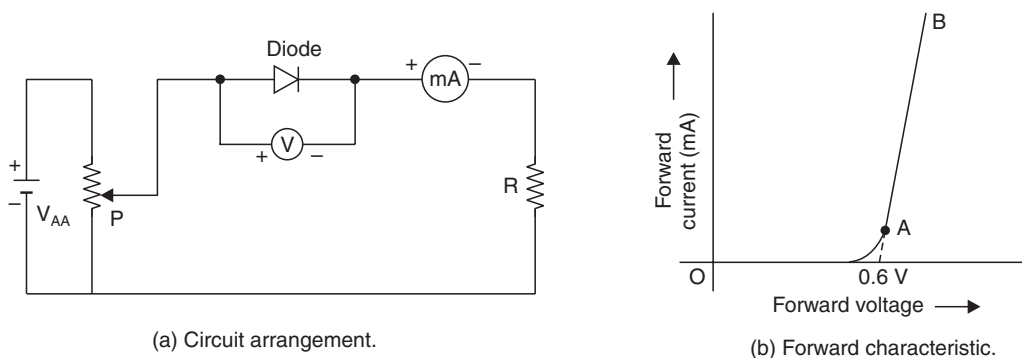
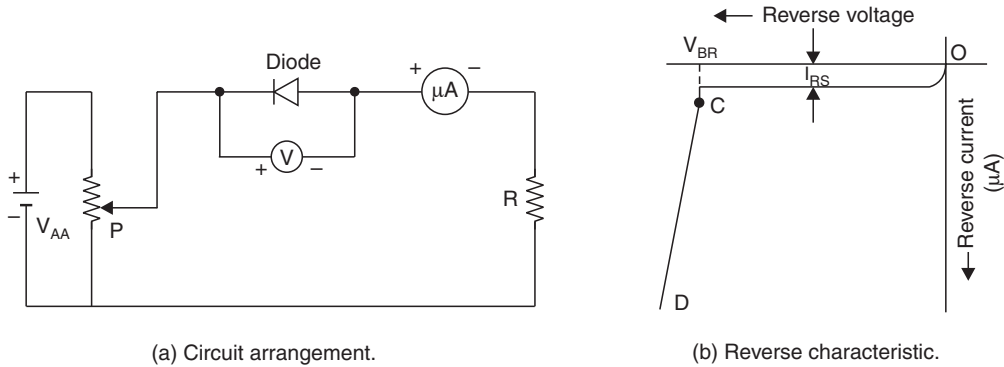

Fig. 15
Fig. 16
The circuit arrangements for obtaining *forward and reverse characteristics* of a P-N junction diode in a laboratory are shown in Figs. 15 (a), (b) and 16 (a), (b) respectively.
- *Refer to Fig. 15.* It may be noted that if excessive current is permitted to flow through the diode, it may get permanently damaged.
- *Refer to Fig. 16.* The circuit is similar to that shown in Fig. 15 (a), except two changes namely the *diode terminals are reversed and milliammeter is replaced by a microammeter.* It may be noted that negative terminal of the voltage source is connected to the anode of a diode and positive terminal to the cathode. Hence, the diode is *reversed.*